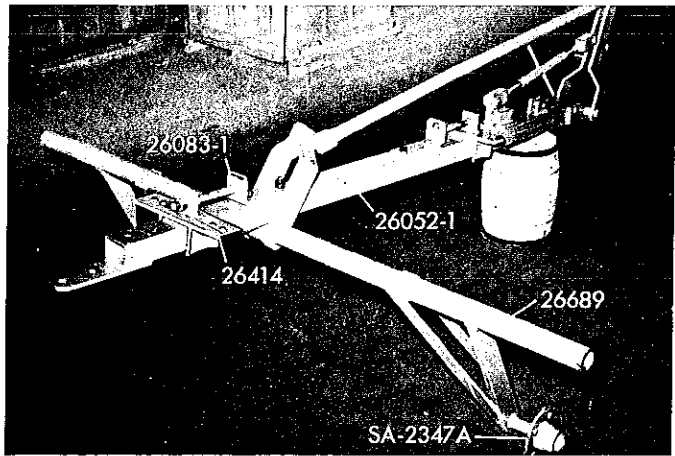

FIGURE 1
**FIGURE 1**—Attach 26689 axle to 26052-1 center beam with two  $\frac{3}{4}$  x  $6\frac{1}{2}$ " bolts. The rear adjustment screw bracket (26083-1) is assembled on the top of the center beam with the same bolts. Refer to Figure 7 for detail of attaching axle to beam. Also note that the wheel hubs are rocked toward the front of the center beam and that the axle yoke is pointed forward. The hubs are factory greased and installed before shipping.